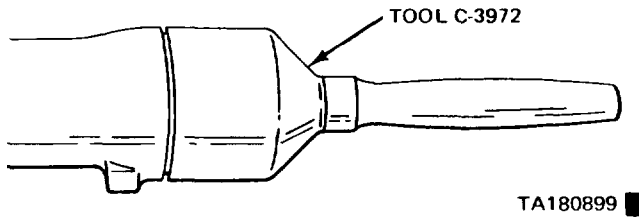

Figure 4-36. Installing Extension Housing Yoke Seal.
d. To install a new seal, position it in the opening of the extension housing and drive it into the housing with tool C-3972 (figure 4-36).